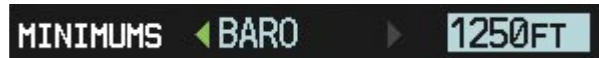

Figure 2-40 Minimum Descent Altitude/Decision Height Setting (Timer/References Window)
- 2) Turn the large **FMS** Knob to highlight the 'Minimums' field (Figure 2-40).